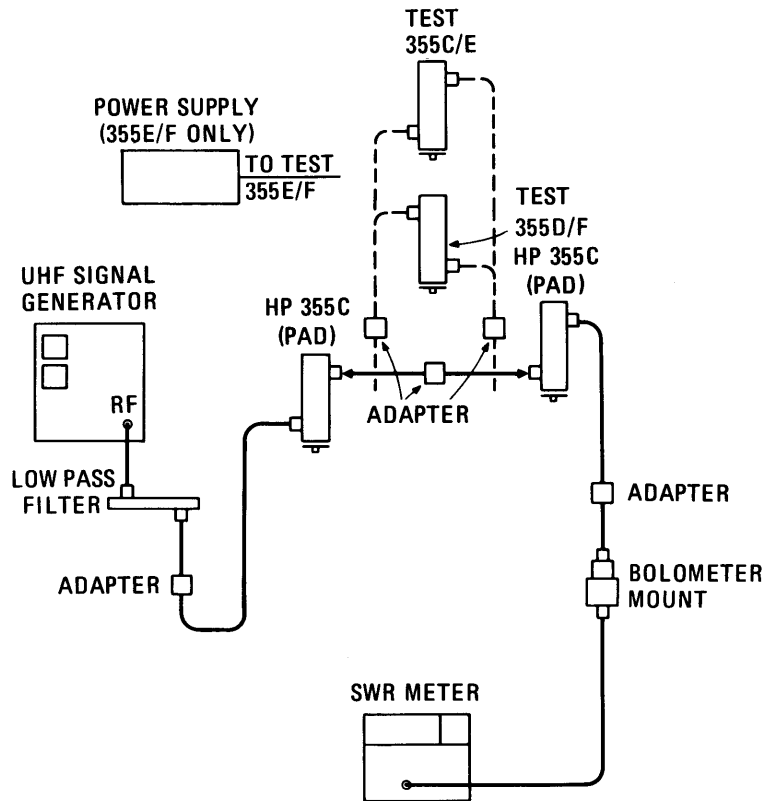

Figure 9. RF Residual Attenuation Test Setup
1. Connect equipment as shown in Figure 9.